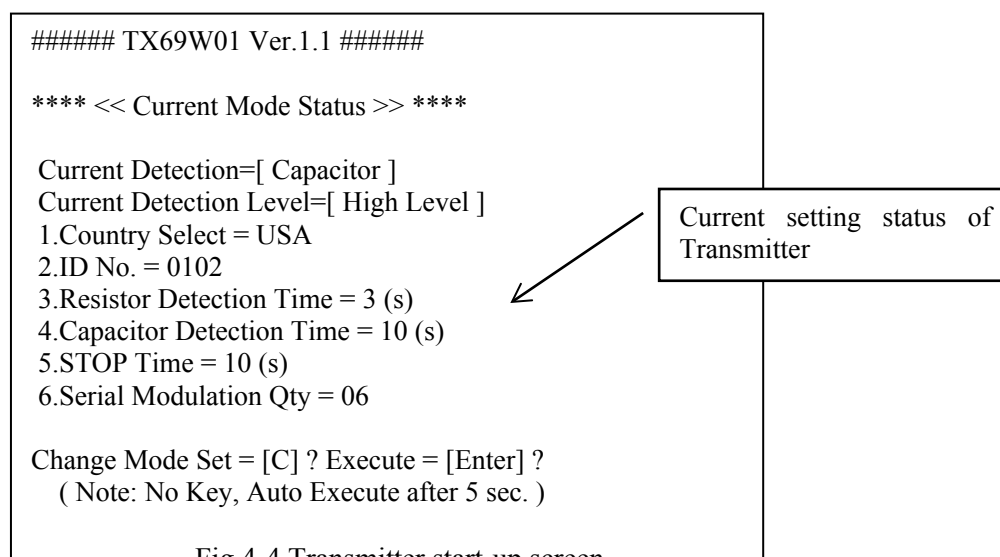

Fig.4-4 Transmitter start-up screen
□The following Transmitter start-up screen (Fig.4-4) will be displayed after setting Communication Port and Communication protocol and insert a battery.